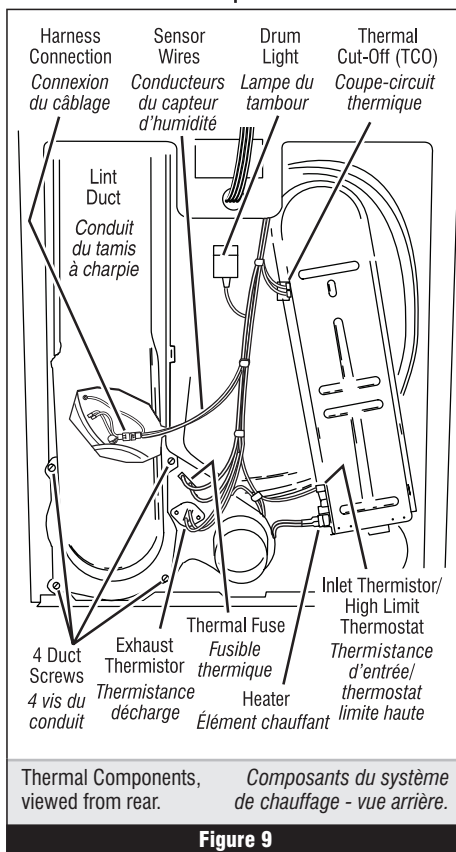

Figure 9
Locate the components using figure 2, page 5, and figure 9.
À l'aide de la figure 2, page 5 et de la figure 9, identifier les composants.
- Check wire connections at the machine control electronics and thermistor. See Accessing & Removing the Electronic Assemblies on page 13, and for thermistor location see figure 9, page 8.